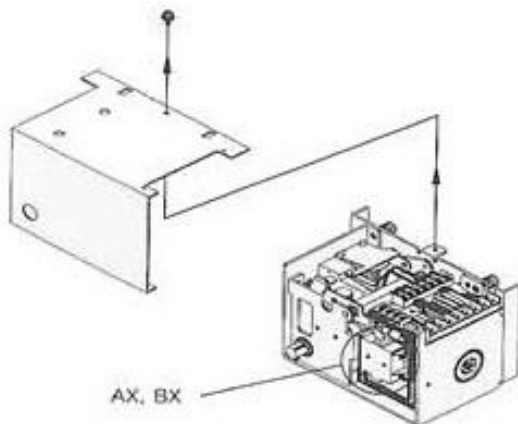

Fig 3
- 2) When control voltage are supplied to A1,A2 or B1,B2, Remove the cover according to Fig 3 and check whether AX & BX are operating.
- 2) When control voltage is supplied, Remove the cover according to Fig 3 and check whether voltage between ③ & ④ should be DC 110V or DC 220V. (③ : +, ④ : -)